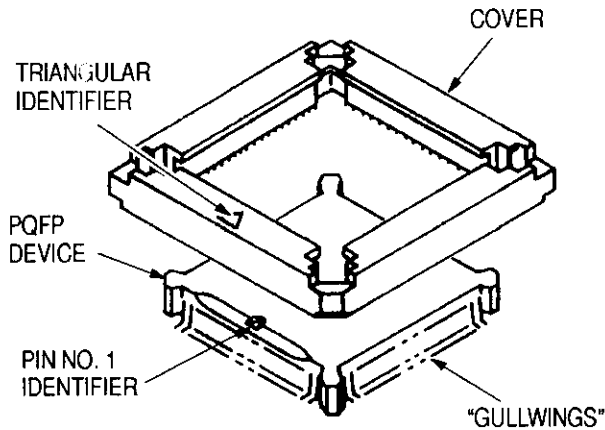

Figure 2
1. Place the PQFP on a flat surface, with the "gullwings" facing downward. Place the cover over the PQFP, making sure to align the triangular identifier on the cover with the pin number 1 identifier on the PQFP (see Figure 2).